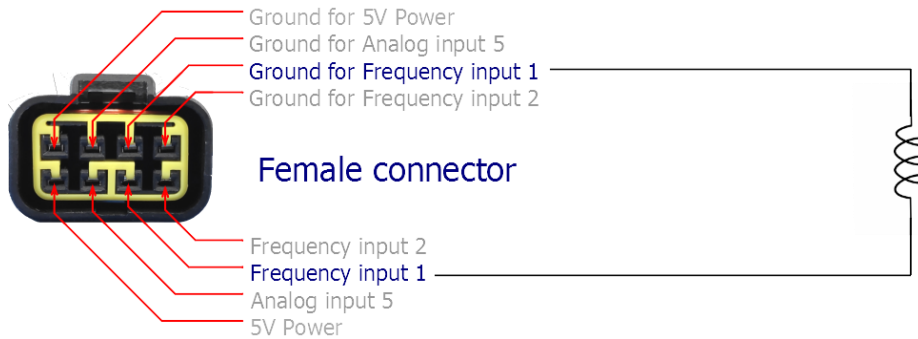

Figure 13: Passive P-lead sensing from magnetos (view from unit side)
- Passive P-lead sensing from magnetos (inductive pickup) - Figure 13: Passive P-lead sensing from magnetos